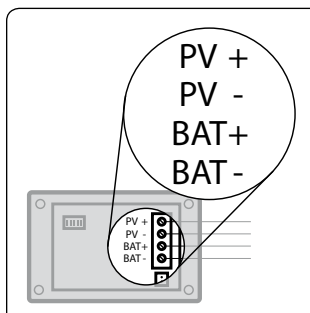
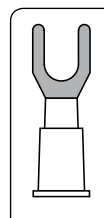

Fig 7.1.1 Rear view of Solar Charge Controller showing terminals
Fig 7.1.3 Fork terminal
- Make sure the Positive terminal (marked '+') of the battery is connected to the Positive terminal (marked "BAT +") of the charge controller and the negative terminal (marked '-') of the battery is connected to the Negative terminal (marked "BAT -") of the Charge Controller SCC-30AB (Fig. 7.1.1). If you are not sure use a DC voltmeter to determine the polarity of the battery bank. **Reverse polarity connection will damage the Charge Controller and the resulting damage will not be covered by warranty.**
- Crimp the insulated fork terminals provided (Fig. 7.1.3) to one end of the Positive and Negative battery leads.
- Insert the fork terminals (Fig. 7.1.3) into the appropriate terminal on the charge controller: Positive lead is connected to the Positive terminal (marked "BAT+") of the charge controller Negative lead is connected to the Negative terminal (marked "BAT -") of the Charge Controller SCC-30AB (Fig. 7.1.1).
11. Crimp the bare end of the wires with the fork terminals provided (Fig 7.1.3).
12. Insert the terminals into the appropriate terminal on the charge controller (Fig 7.1.1): positive PV lead is connected to the positive terminal (marked "PV +") of the charge controller and the negative PV lead is connected to the negative terminal (marked "PV -") of the charge controller. **Reverse polarity connection will damage the Charge Controller and the resulting damage will not be covered by warranty.**